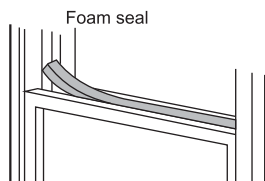

Fig. 13
5. Cut the foam seal to an appropriate length and seal the open gap between the top window sash and outer window sash. See Fig. 13.